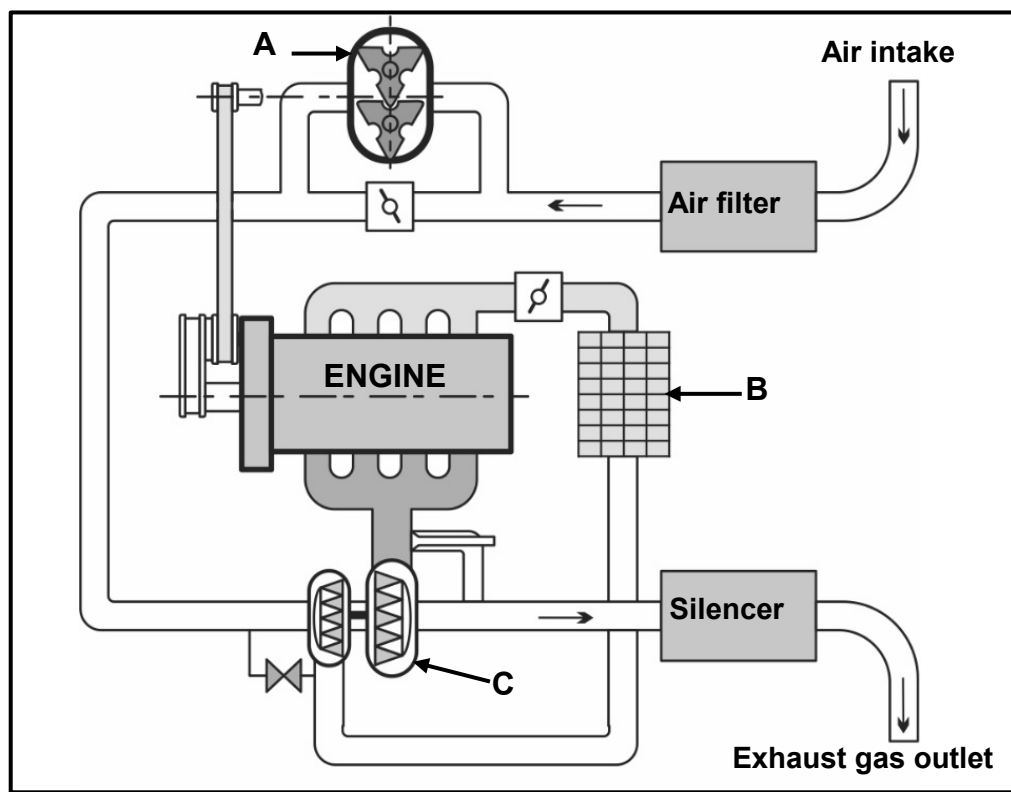

FIGURE 6.9
- 6.9 FIGURE 6.9 below shows a twin-charging system fitted to an internal combustion engine. Answer the questions that follow.